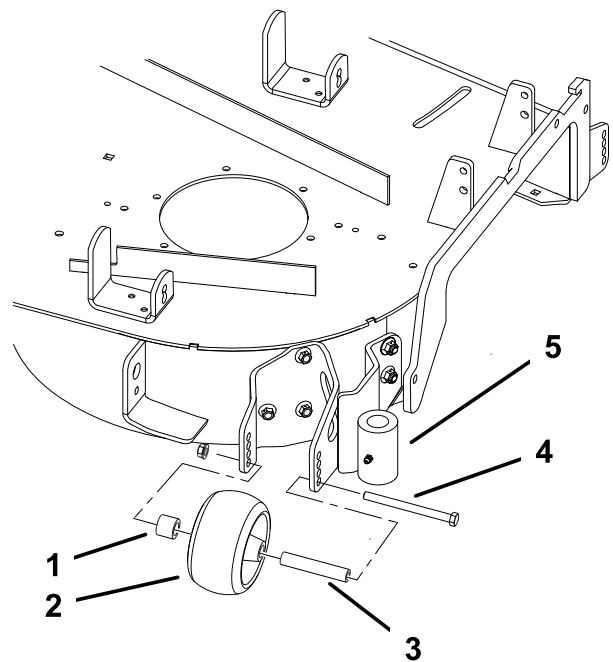

Figure 6
9. Install the previously removed gage wheel to the new mounting plate (Figure 6).